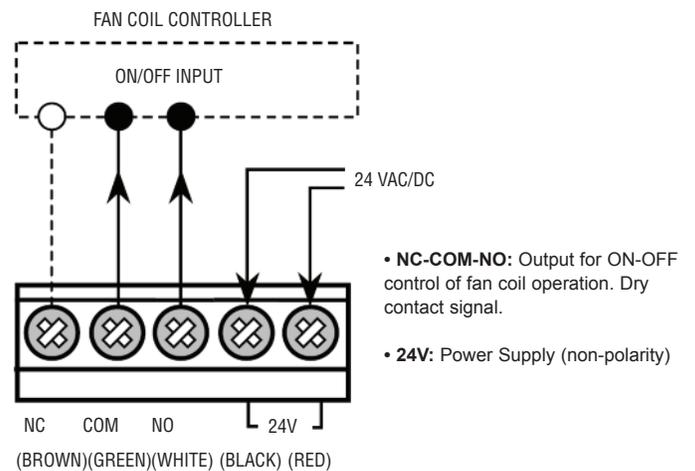

Figure 3
- Connect the cable to the corresponding terminals as shown in Figure 3.